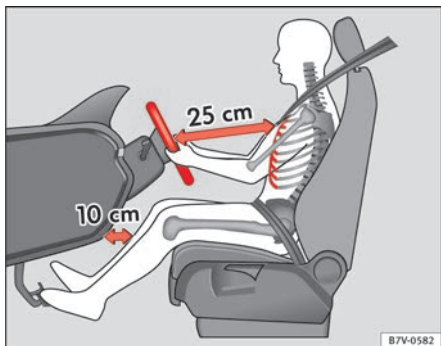
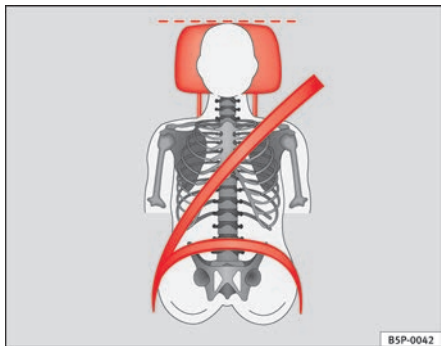

Fig. 1 The correct distance between the driver and the steering wheel must be at least 25 cm (10 inches).
Fig. 2 Correct belt web and head restraint positions.
- Adjust the head restraint so that its upper edge is at the same level as the top of your head, or as close as possible to the same level as the top of your head and under no circumstances below eye level. Keep the back of your neck as close as possible to the head restraint ⇒ fig. 1 and ⇒ fig. 2.
- Adjust the steering wheel so that there is a distance of at least 25 cm (10 inches) between it and your chest ⇒ fig. 1 and so that you can hold the steering wheel with both hands on the outside of the ring at the 9 o'clock and 3 o'clock positions with your arms slightly bent.
- Adjust the driver's seat forwards or backwards so that you are able to press the accelerator, brake and clutch pedals to the floor with your knees slightly angled and the distance between your knees and the dash panel is at least 10 cm (4 inches) ⇒ fig. 1.